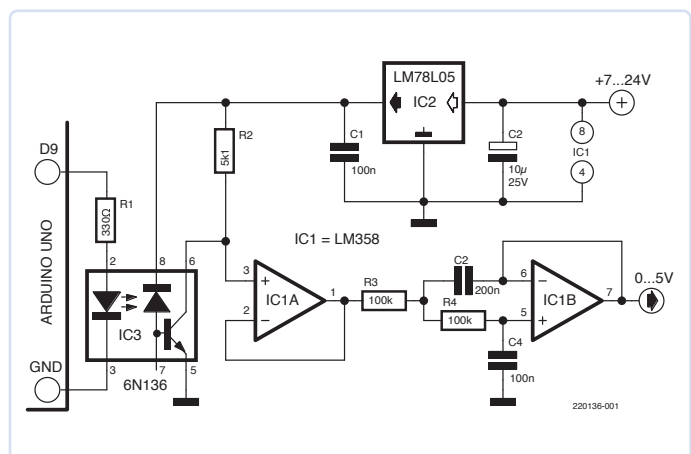

Figure 5: Isolated analog output for the Arduino UNO.
**Figure 5** shows an example from the Elektor article at [3] for an Arduino UNO.